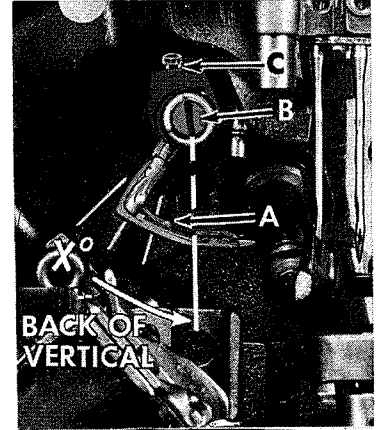
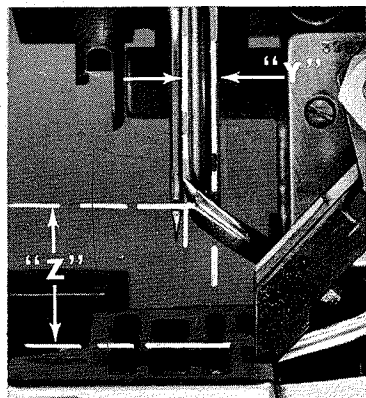

Fig. 10
Fig. 11
Insert upper looper or spreader (A, Fig. 10) in its holder. Screw (B) holds the looper or spreader in its holder and permits looper or spreader to be pushed in or out, or turned around its shank. Screw (C) in the collar holds the holder in the shaft and allows the holder to be rotated or adjusted laterally.
When looper or spreader is at the right end of its stroke, the holder should be set to position the looper or spreader shank approximately "X" degrees back of vertical and flush with the top of holder (Fig. 10) on all Styles except 39800 CA, CB; and approximately 1/16 inch (1.59 mm) above the holder on Styles 39800 CA, CB. On later machines with the new looper/spreader holder (See Fig. 10 A), settings are the same for "X", "Y", and "Z" except for location of shank with respect to top of holder. This setting should be approximately 1/32 inch (.79 mm) above holder on all Styles except 39800 CA, CB, and approximately 3/32 inch (2.38 mm) above the top of holder on Styles 39800 CA, CB. These settings may vary depending on needle size. NOTE: Lines in bed casting represent 15, 30 and 45 degrees back of vertical. CAREFULLY set looper or spreader point to cross lower looper to the left of lower looper eye with approximately .002 inch (.051 mm) clearance. At extreme left end of travel the looper point or the lower point of the spreader should be set "Y" dimension to the left of the centerline of the right needle and "Z" dimension above throat plate (Fig. 11).